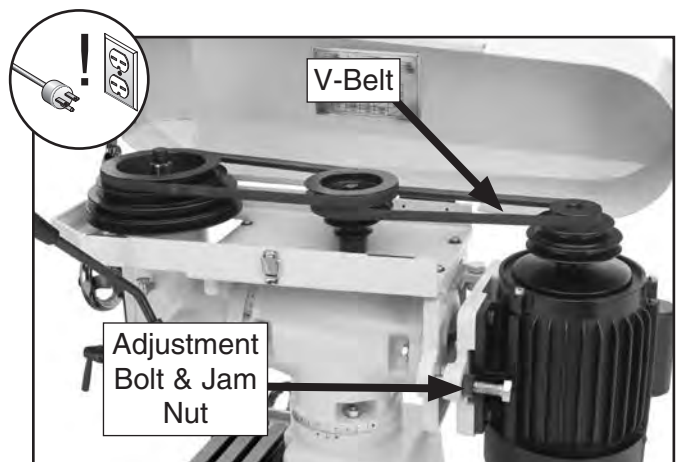

Figure 46. V-belt tension adjustment bolt.
2. Lift the V-belt cover, then loosen the adjustment bolt jam nut near the motor (see **Figure 46**).